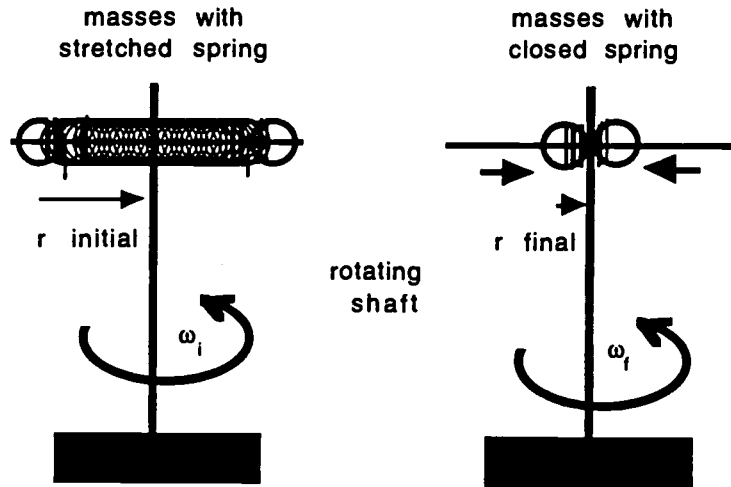

Figure 6: Rotating widget
1. Examine the rotating widget in Figure 6. This apparatus has two masses each of 2.5 kg, initially held  $r_i = 1.00$  m away from the axis of rotation, and are set spinning with an initial angular velocity of  $\omega_i = 2\pi$  rad/sec ( $f = 1.0$  rev/sec). After several frictionless turns, the pins holding the masses out are released (without otherwise disturbing the system) so that the springs are allowed to pull the masses in to a new radius  $r_f = 0.05$  m. Assume that all bearings are frictionless, that the horizontal rod is massless, and that the masses slide frictionlessly on the horizontal rod.